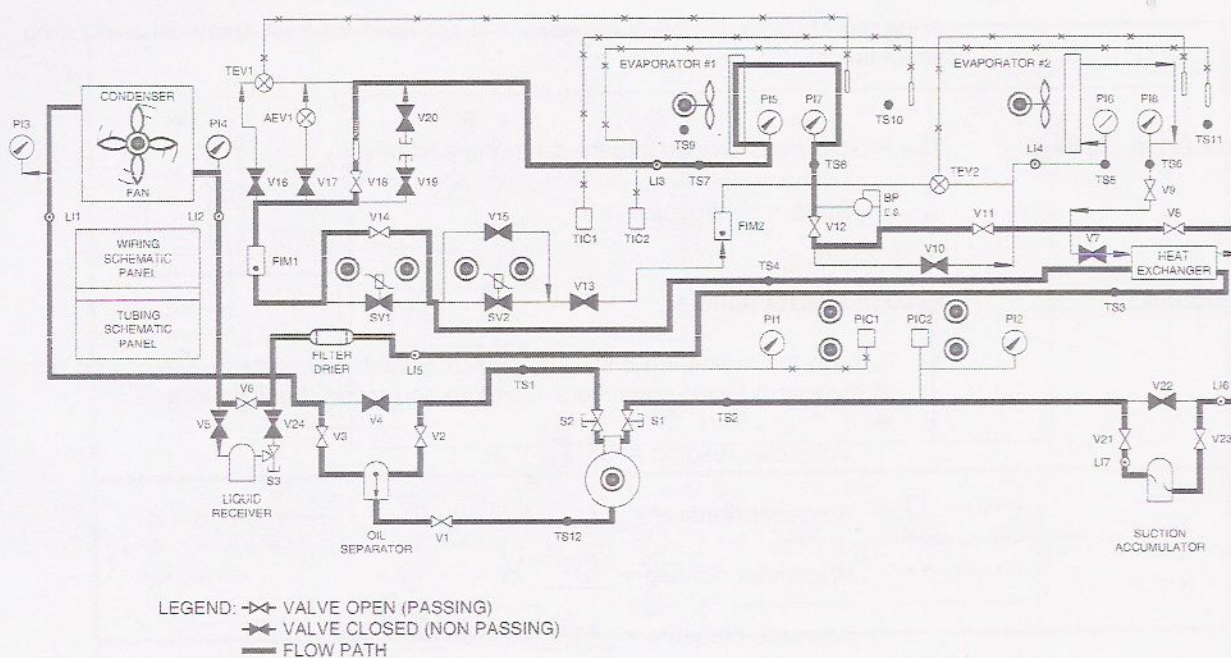

Figure 1-4. Valve configuration.
3. Adjust the following manual valves as indicated below (refer to Figure 1-4):